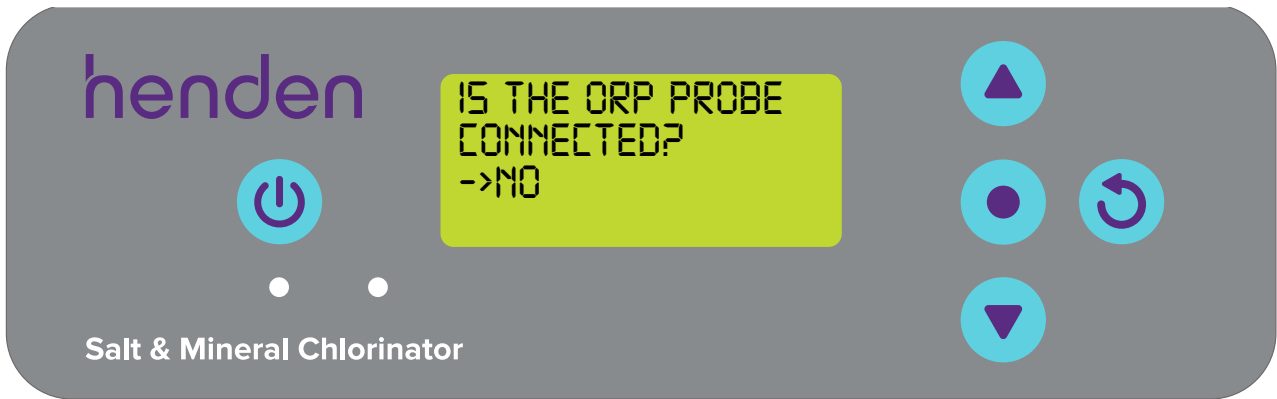

Figure 8.50
- Should you wish to change the setting, use the  **menu up/down** to scroll the display to “NO” (refer Figure 8.50)